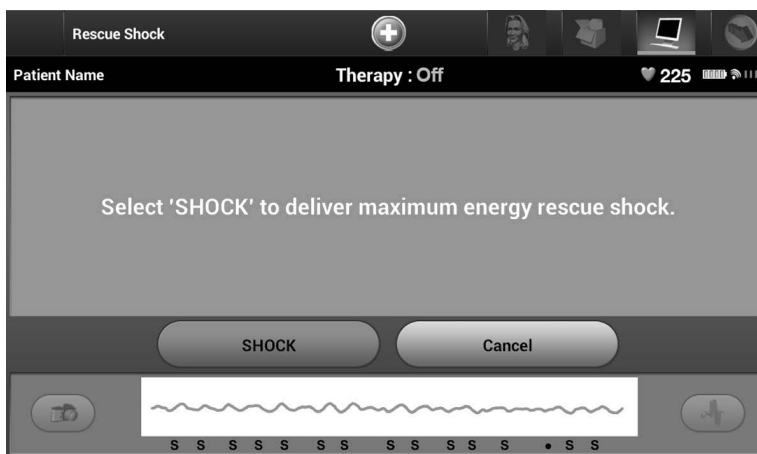

Figure 53: *Rescue Shock screen*
1. Select the red Rescue Icon at the top of the programmer screen. The Rescue Shock screen appears (Figure 53).